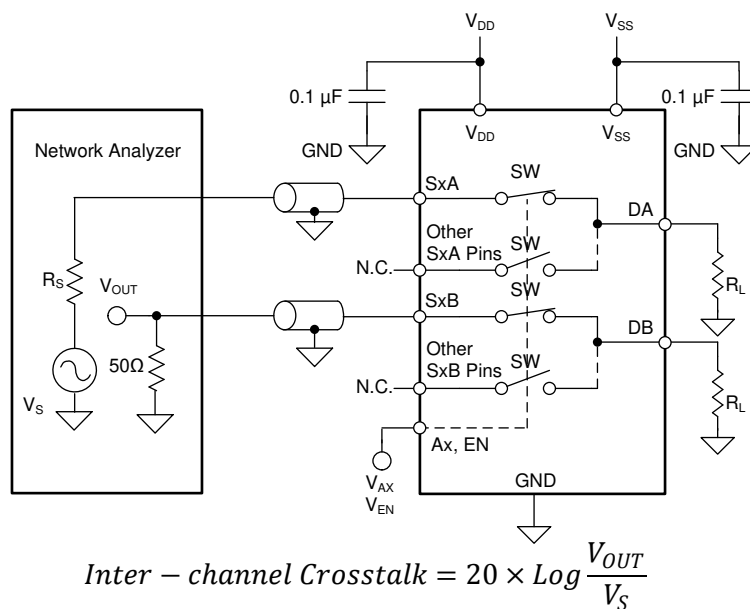

Figure 8-14. Inter-channel Crosstalk Measurement Setup
2. Inter-channel crosstalk ($X_{TALK(INTER)}$): the voltage at the source pin (S_x) of an on-switch input in a different channel, as shown in Figure 8-14. Inter-channel crosstalk applies only to the TMUX7309F device.